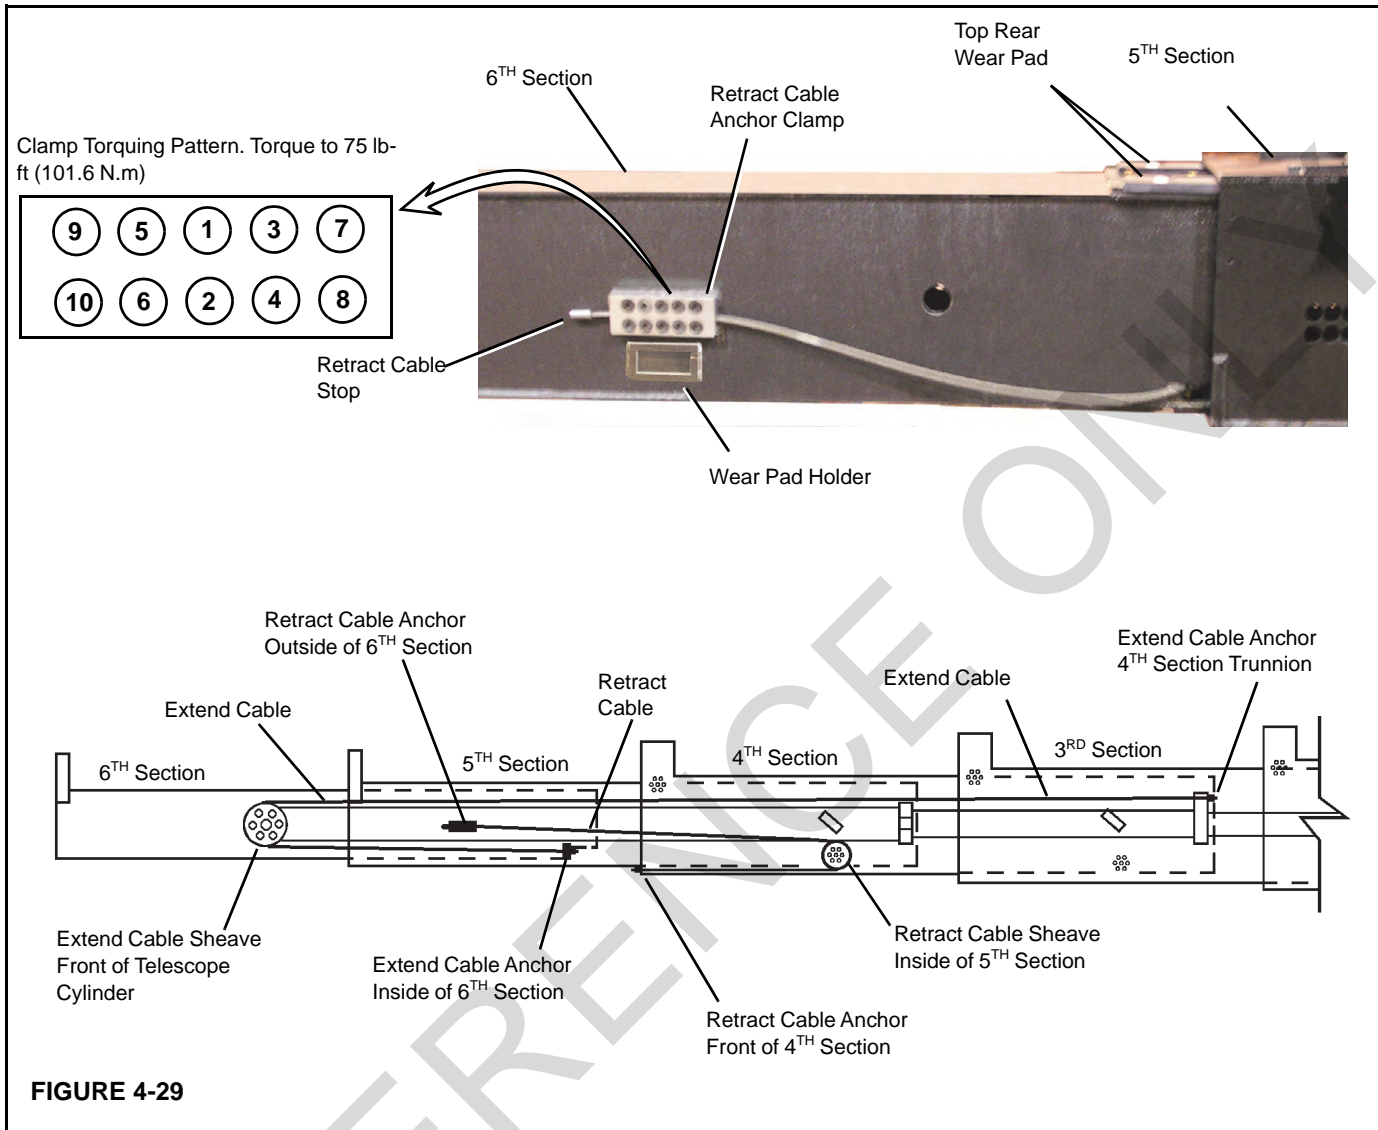

FIGURE 4-29
11. Attach the retract cable to the side 6TH section with the anchor clamp (Figure 4-29) and coil the retract cable inside the 6TH section boom (Figure 4-31).